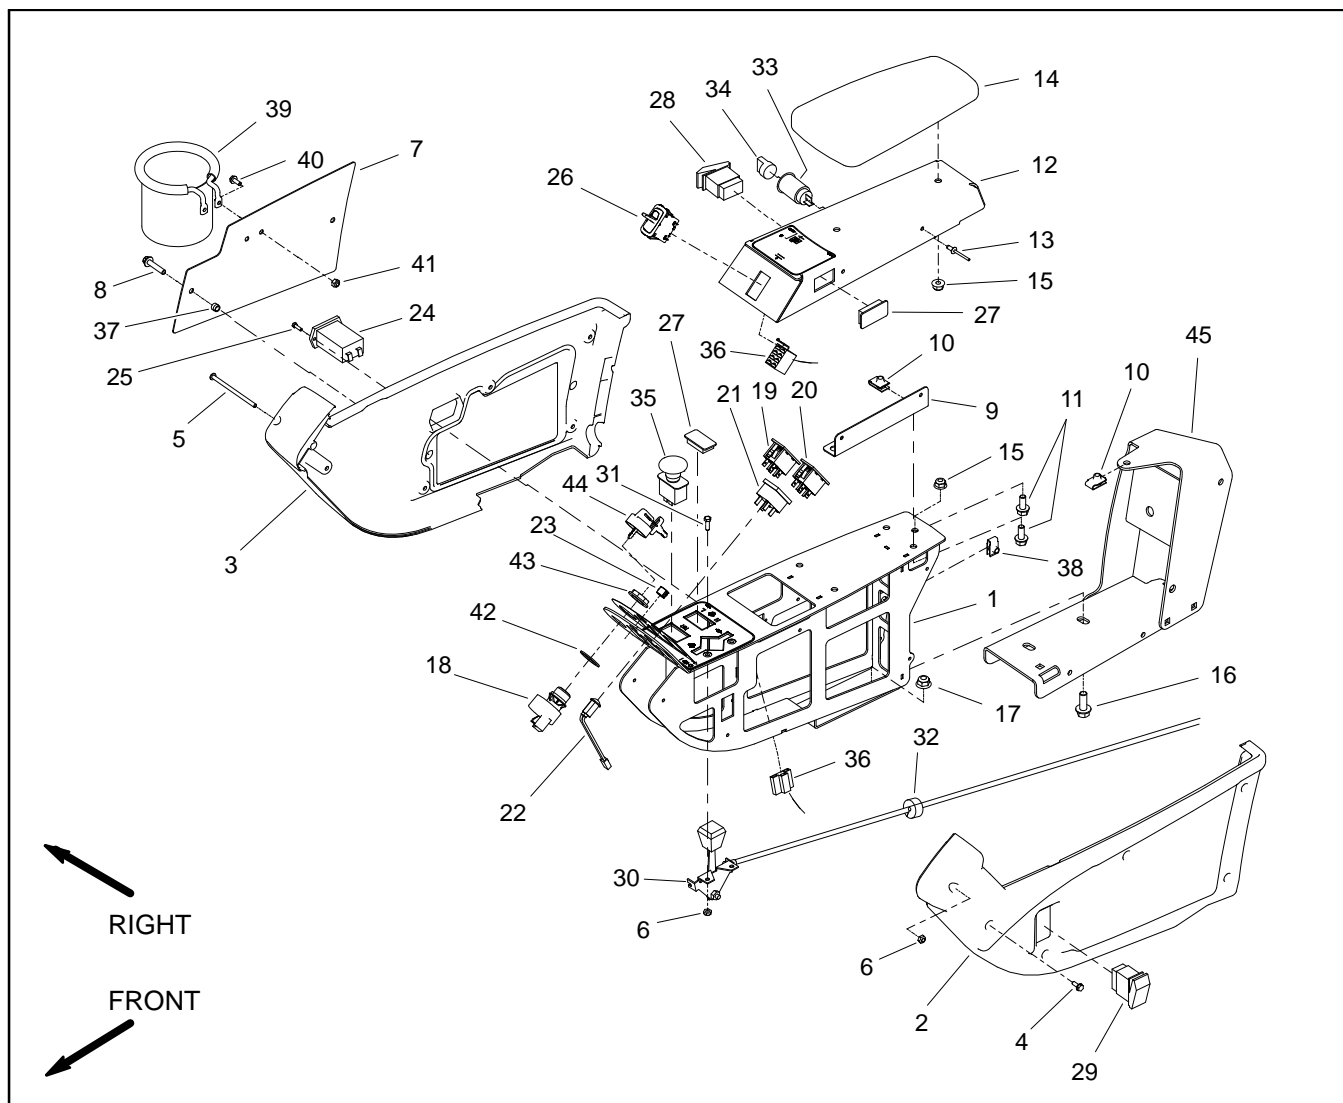

Figure 5
Disassembly (Fig. 5)
2. Remove two (2) flange head screws (item 8) and then cover plate (item 7) from outside of console arm. Locate and retrieve two (2) flange spacers (item 37).
3. At front of console arm, remove screw (item 5) and lock nut (item 6) that secure console arm covers to each other.
4. Remove five (5) washer head screws (item 4) that secure each cover to console arm panel.
5. Remove console arm covers from machine. As LH cover (item 2) is removed from console arm, unplug wire harness connector from headlight switch.
6. Remove electrical components from console arm as needed using Figure 5 as a guide.
7. If necessary, remove console panel and supports from machine using Figures 5 and 6 as guides.
Assembly (Fig. 5)
1. Install all removed electrical and console arm components using Figure 5 and 6 as guides.
2. Position covers to console arm. As LH cover (item 2) is placed, plug wire harness connector to headlight switch.
3. Secure each cover to console arm with five (5) washer head screws (item 4). Install screw (item 5) and lock nut (item 6) to secure covers at front of console arm.
4. Position cover plate and flange spacers to outside of console arm. Secure with two (2) flange head screws.